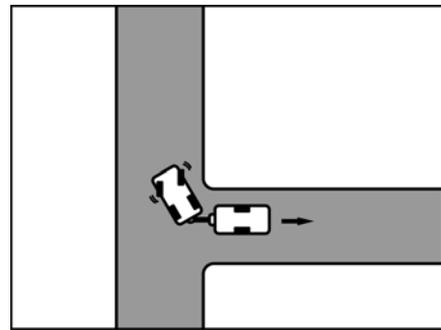

Fig. 12 Steer to the right
- Turn the steering wheel to the right and reverse with caution (Fig. 12).